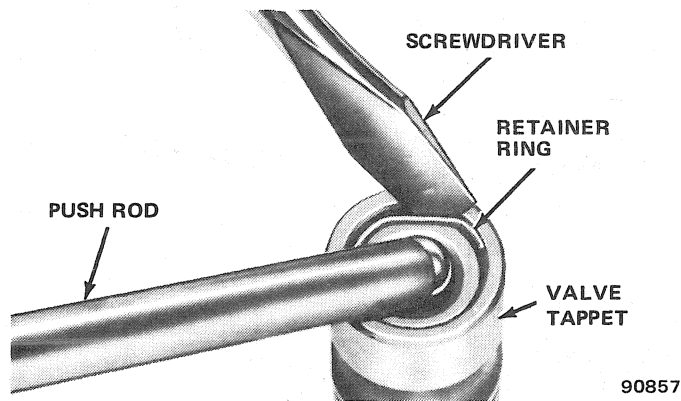

Fig. 1B-16 Removing Push Rod Seat Retainer
(1) Remove push rod seat retainer ring by holding seat down with push rod while dislodging ring from tappet body with pointed tool (fig. 1B-16).